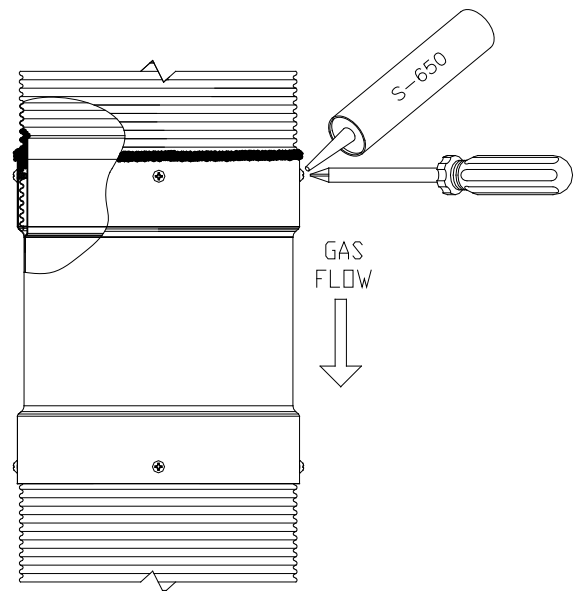

Figure 24 - SecureSeal Flex screws
- 3.5. Add the red S-650 caulking over the screws (Figure 24).